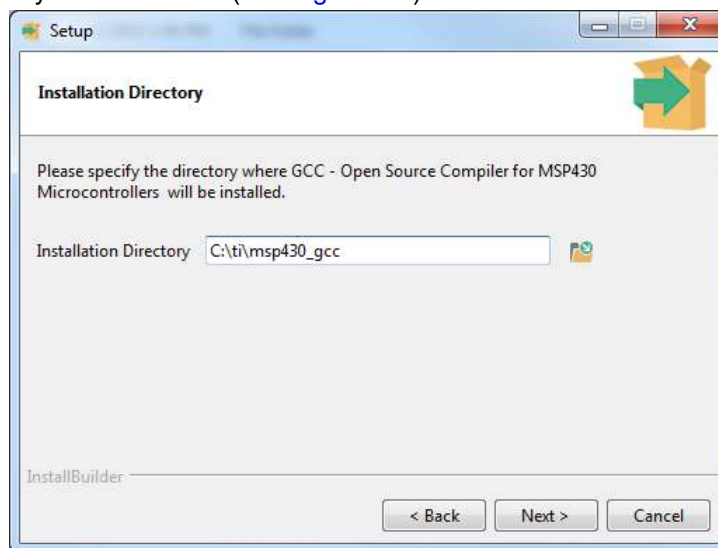

Figure 2-5. MSP430 GCC Stand-Alone Package Installation Directory
2. Select the install directory and click **Next** (see Figure 2-5).